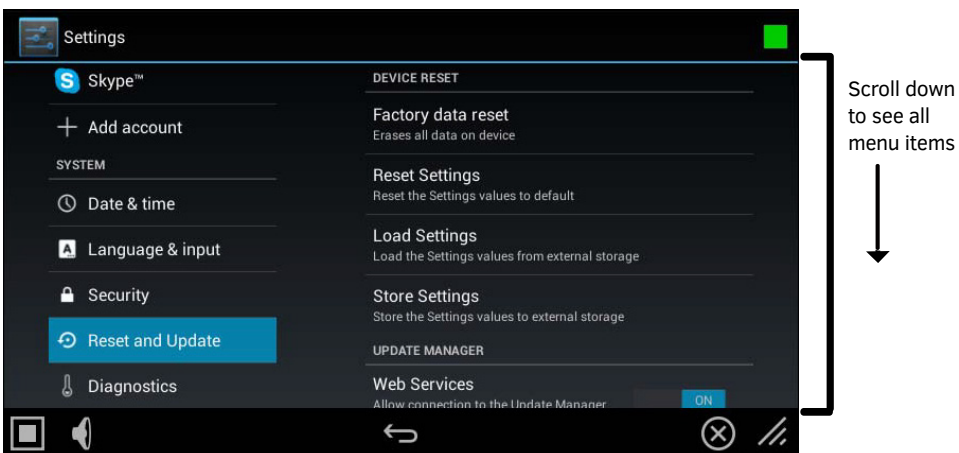

**FIG. 109** Confirm - Restoring the Default Security Settings
2. In the confirmation window, press **Yes** to proceed (FIG. 109):